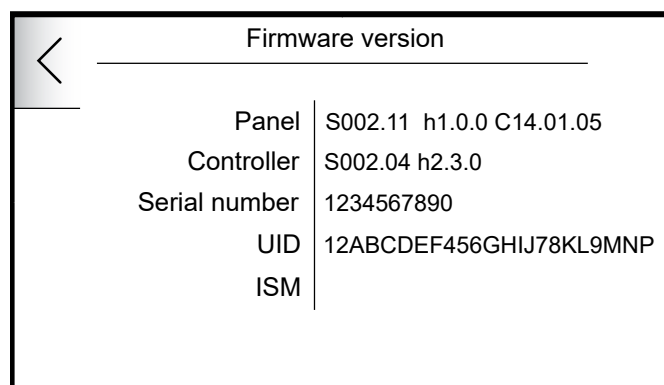

Figure 10-7: Firmware version and UID.
4. Then tap 'Firmware version'. Refer to Figure 10-7.